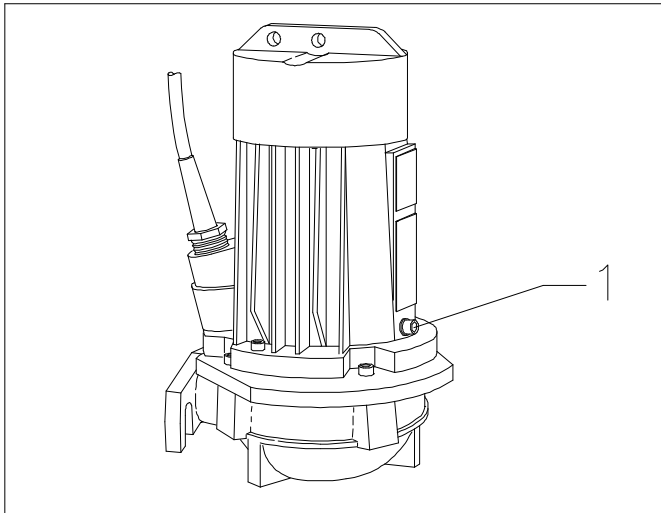

Fig. 7.6
Unscrew the inspection plug of the motorhousing (see Fig. 7.6 pos 1).